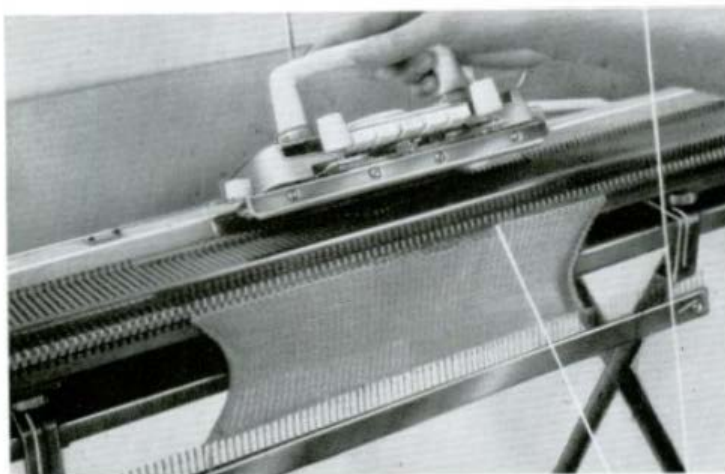

Fig. 44
- b. Grip the handle of the carriage and lift up by first raising the front of the carriage. (See Fig. 44)